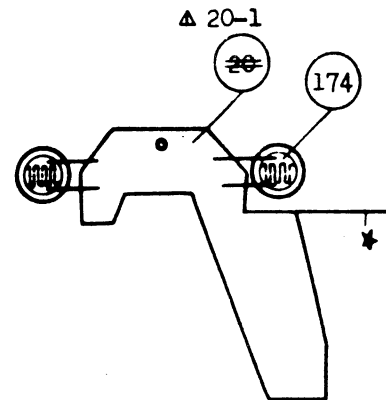

Fig. 16
(I) CdS printed wiring plate (Fig. 16)